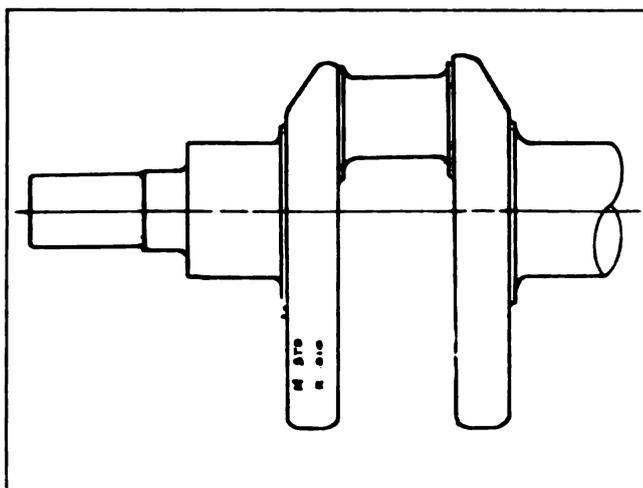
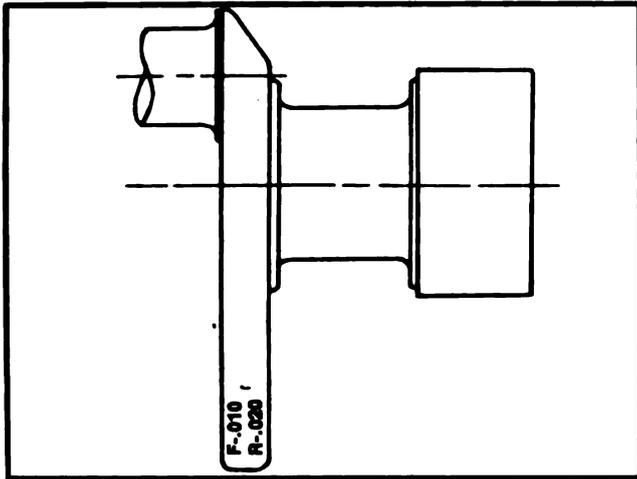

Fig. 1-51 (V50138). Marks To Show The Size Of The Main And Connecting Rod Journals.
Fig. 1-52. Marks To Show The Size Of The Thrust Surfaces.
2. Put a mark on the crankshaft when you grind it. This will show the correct size for the main and connecting rod bearings. Include on the identification both the thrust ring size and the location of the ring. See Fig. 1-51 and Fig. 1-52.
3. Put a mark for the undersize main and connecting rod journal on the front counterweight. Put a mark for the oversize thrust bearing on the rear counterweight. Fig. 1-52 shows how to mark the counterweight.
Example of an identification mark, Fig. 1-52.